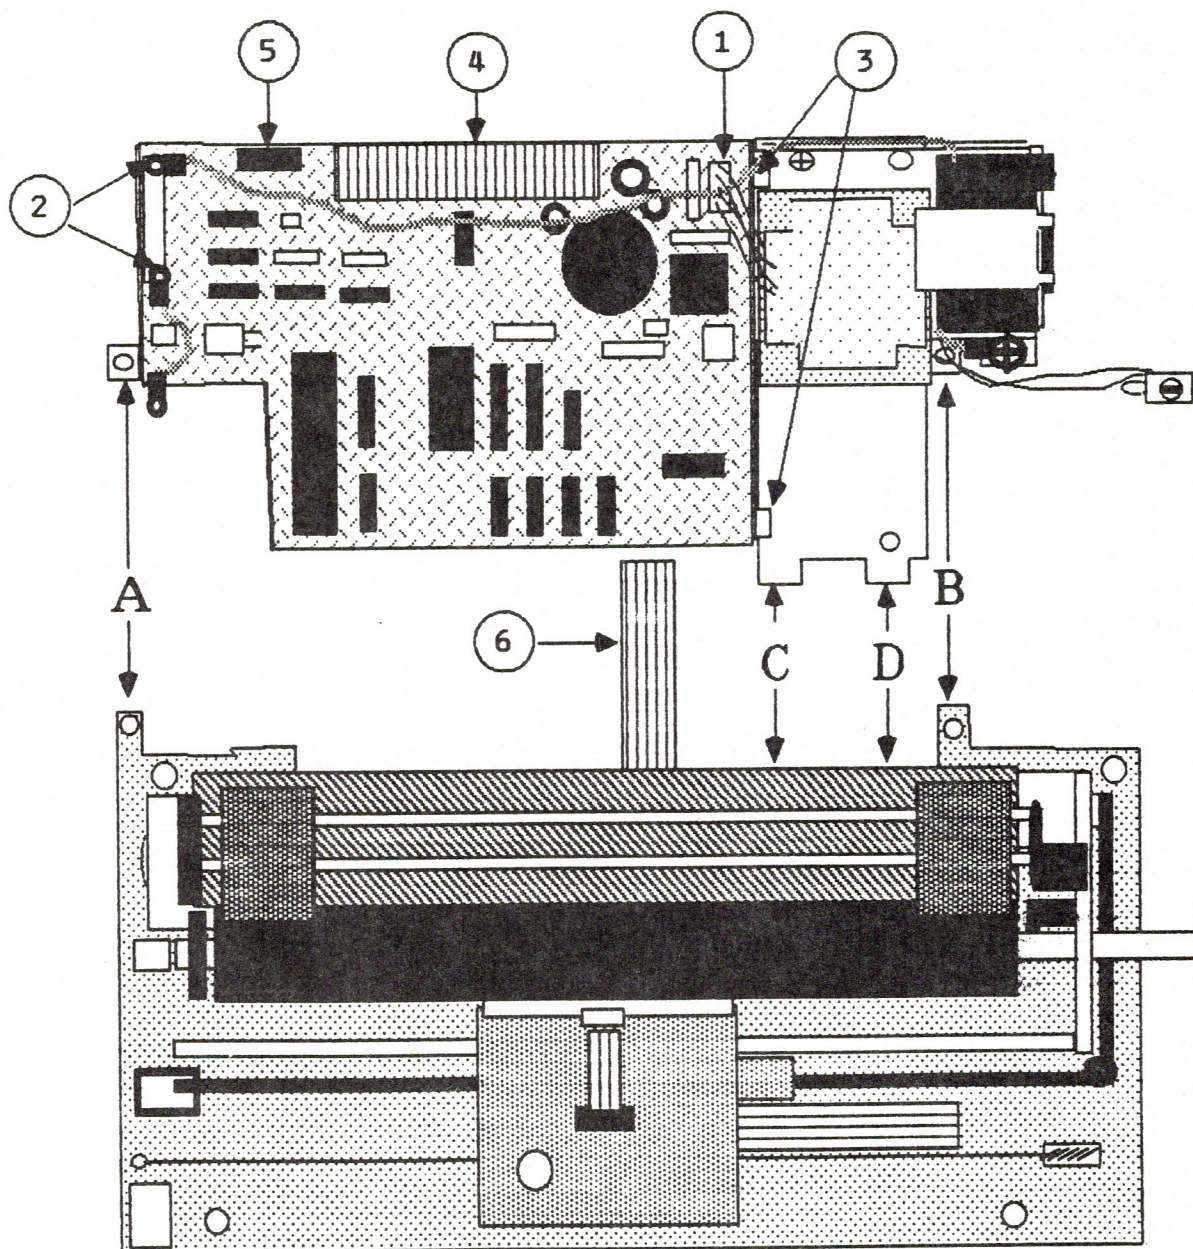

Figure 6
1. Disconnect the four-wire transformer plug from the logic board (Figure 6, #1).
2. Remove the two screws from the DB25 connector (Figure 6, #2) and set the ground wires aside.
3. Slide the logic board out from the small plastic clamps that hold it (Figure 6, #3), and set it aside.
- a) The long ground wire from the right goes to the rear of the DB-25; route it in front of the heat sink (Figure 6, #4) and the DIP switches (Figure 6, #5).
4. Connect the four-wire transformer plug to its socket (Figure 6, #1).
1. Lay the Logic Board Assembly behind the Mechanical Assembly on a flat surface. (See Figure 6.)
3. Make sure the mylar cable (Figure 6, #6) is lying on top of the logic board.
4. Slide the two assemblies together, making sure that Tabs A and B of the logic board lie under Tabs A and B of the mechanism assembly (see Figure 6).